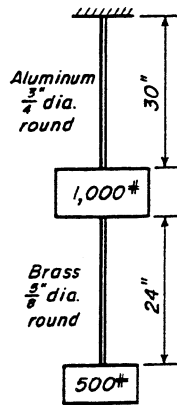

Figure 1-45 Problem 5.
5. In Fig. 1-45, find the drop of the 500-lb weight.